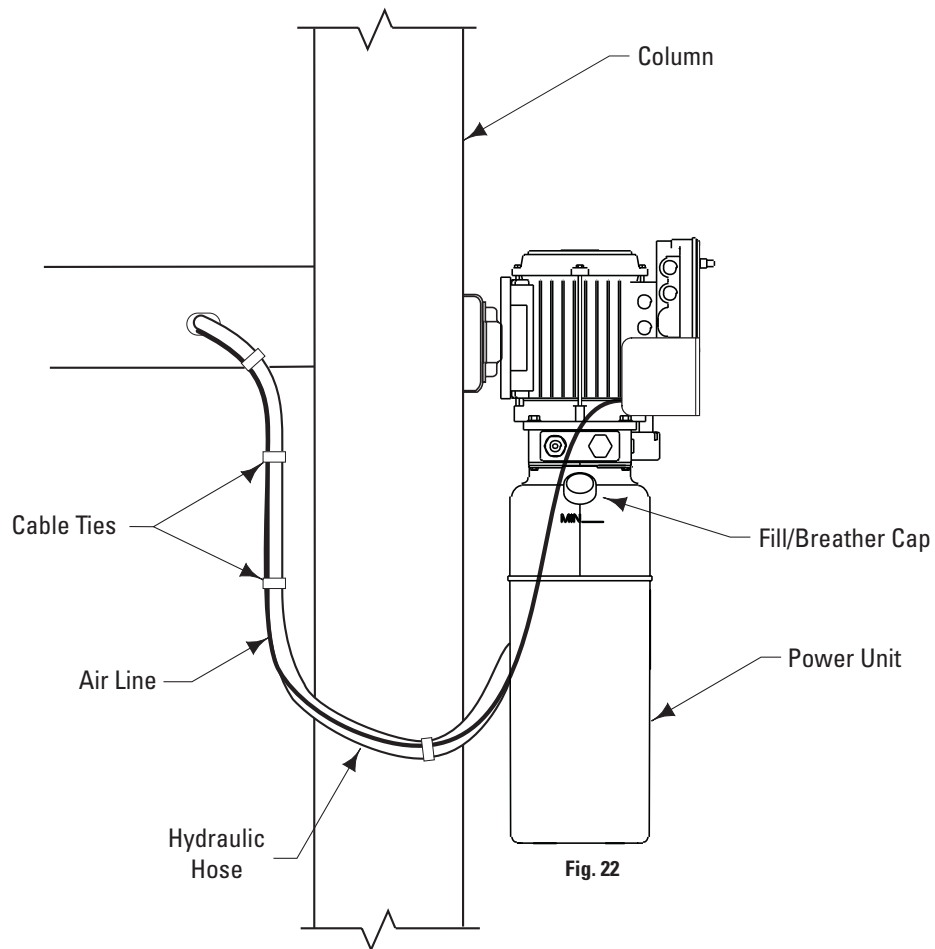

Fig. 22
- Put (4) 5/16" x 1-1/2" hex bolts through holes in column bracket using push nuts to hold in place.
- Mount power unit, with motor up, to column bracket and install lock washers and nuts, Fig. 20. Run hydraulic hose from runway through slot in side of runway to power unit output port, Fig. 22. DO NOT use Teflon tape on hydraulic hose connections.
- D. Run hydraulic hose from runway through slot in side of runway to elbow, Fig. 22. DO NOT use Teflon tape on hydraulic hose connections. Clean elbow and hose. Inspect all threads for damage and hose ends to be sure they are crimped. Attach hose to elbow using Flared Fittings Tightening Procedure.
16. **Oil Filling:** Use Dexron III ATF, or hydraulic fluid that meets ISO 32 specifications. System capacity is thirteen (13) quarts. Use Dexron III ATF or equal. Fully lower lift. Remove fill/breather cap, Fig. 22. Fill to minimum fill line on tank, replace cap.
- 18. Bleeding:** Lift must be fully lowered before changing or adding fluid. Raise and lower lift six times. The cylinder is self-bleeding. After bleeding system, fluid level in power unit reservoir may be down. Add more ATF or ISO32 hydraulic oil, if necessary, following instructions in Step 16. To pressure test, run lift to full rise and run motor for approximately 5 seconds. Stop and check all fittings and hose connections. Tighten or reseal if required. Lower lift. If fill/breather cap, Fig. 22, is lost or broken, order replacement.